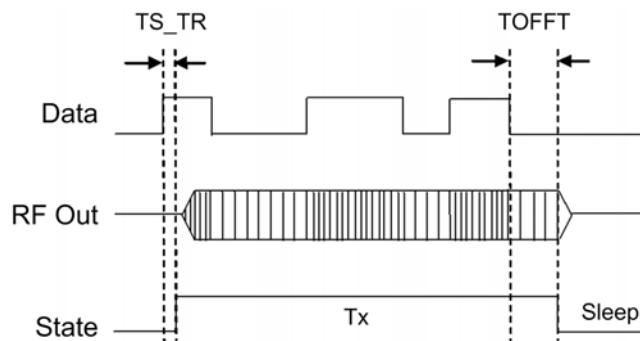

Figure 3. ‘Power & Go’ Mode: Transmitter Timing Operation
**Automatic Mode** operation is described in Figure 3. Here we see that a rising edge on the DATA pin activates the transmitter start-up process. DATA must be held high for the start-up time (TS\_TR) of the SX1243. During this time the SX1243 undergoes an optimized, self-calibrating trajectory from Sleep mode to Transmit mode. Once this time has elapsed, the SX1243 is ready to transmit. Any logical signal subsequently applied to the DATA pin is then transmitted.